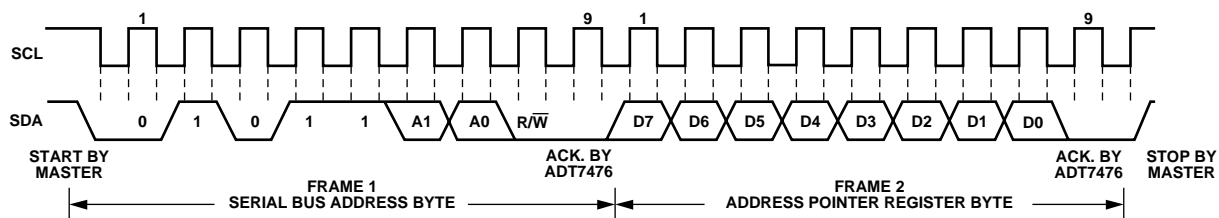
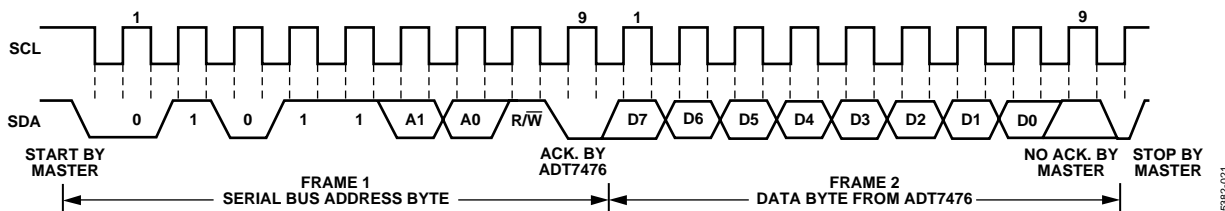

Figure 19. Writing to the Address Pointer Register Only
Figure 20. Reading Data from a Previously Selected Register
- If the ADT7476 address pointer register value is unknown, or not the desired value, it must first be set to the correct value before data can be read from the desired data register. This is done by performing a write to the ADT7476 as before, but only the data byte containing the register address is sent because no data is written to the register (see Figure 19). A read operation is then performed consisting of the serial bus address, R/W bit set to 1, followed by the data byte read from the data register (see Figure 20.)
- If the address pointer register is already at the desired address, data can be read from the corresponding data register without first writing to the address pointer register (see Figure 20).